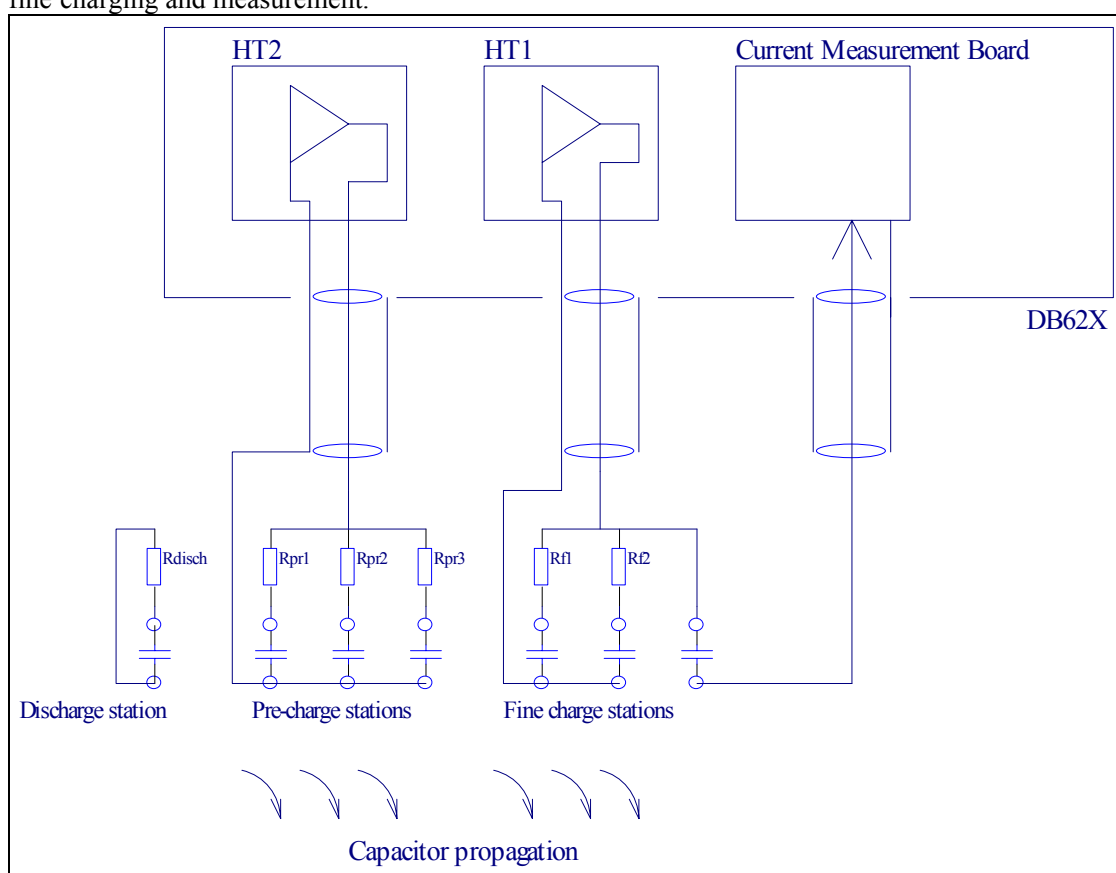

Fig. 6.5.1 Example of IR testing set-up
Fig. 6.5.1 shows the set-up for STB6684 with two HV supplies, one for precharging and one for fine charging and measurement.
For charging foil capacitors with post charge properties it is assumed that the capacitor is charged to the full test voltage already at the first station. The first resistor is given by (1), the last resistor (Rpr3 in figure 6.5.1) should match the following fine charge resistors (see later). The intermediate (Rpr2 in figure 6.5.1) resistors should have values between 10-20 times Rpr1 and Rpr3 .
The fine charge resistors should match the input resistance R_i of the current input amplifier. In STB6684/STB6684A IR tester, this resistor can be switched to either 10k Ω or 1M Ω . In figure 6.5.1 only two fine charge stations are shown, in many cases more than 10 stations are preferred.
Example (figure 6.5.1):
Example (Figure 6.5.1):